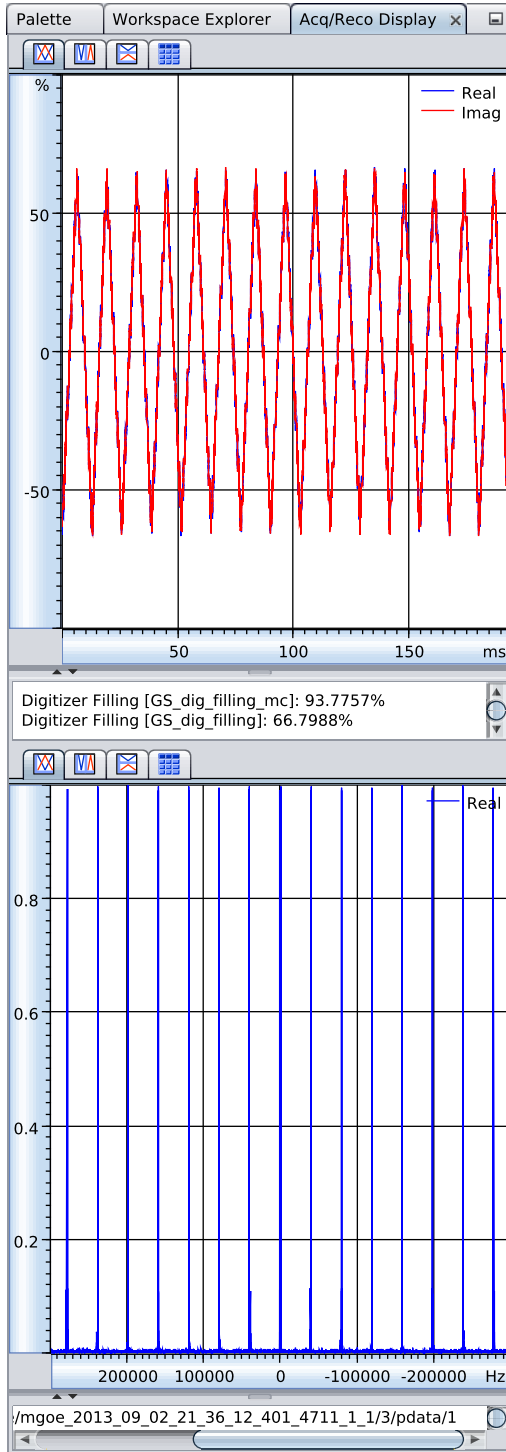

Figure 1.52: Acq Reco Display
- The  icon is displayed in the Status column. While data is acquired, parameters from the Setup Card may be changed. Their impact on the signal can be viewed in real-time using the Acq/Reco Display (see [Figure 1.52 \[p. 70\]](#)) which is automatically opened in the left part of the user interface. The Acq/Reco Display shows the raw data in the top diagram and the reconstructed data in the middle/bottom diagram. The setup pipeline will run endlessly until it is stopped by the operator.